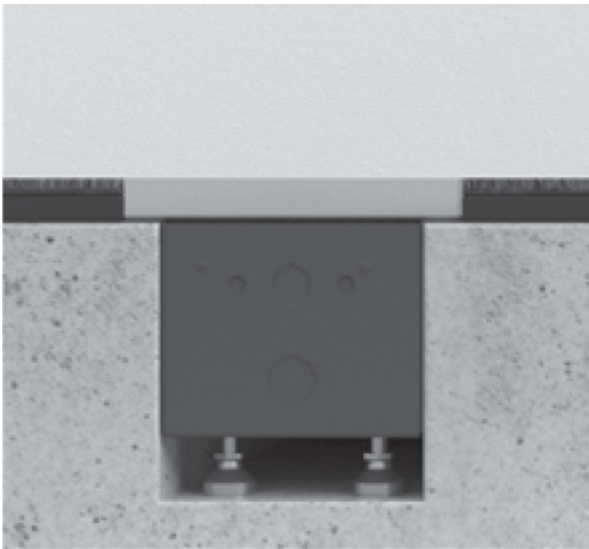

Figure 12A: Flush Mount – Grille Sits Flush to the Floor
- Repeat this process until level. **Note:** the grille must be flush with floor surface. See figure 12A.